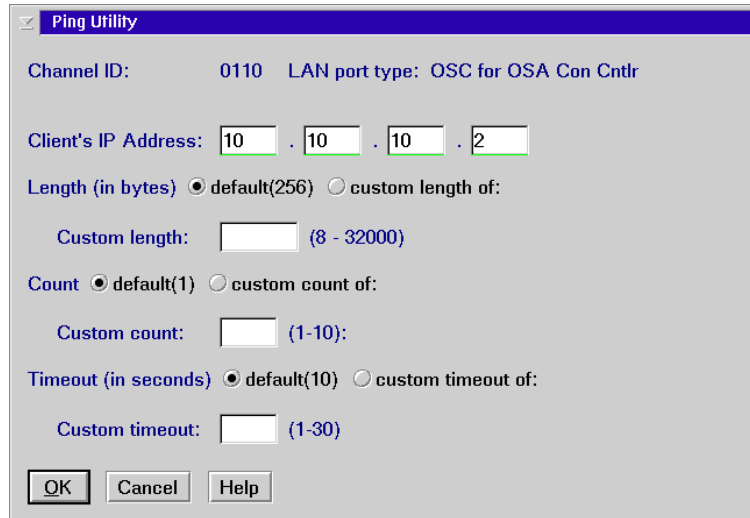

Figure 4-8 Ping utility
1. Starting at the Debug Utilities panel, click **Ping utility**, and click **OK**. The Ping Utility panel is displayed (see Figure 4-8).